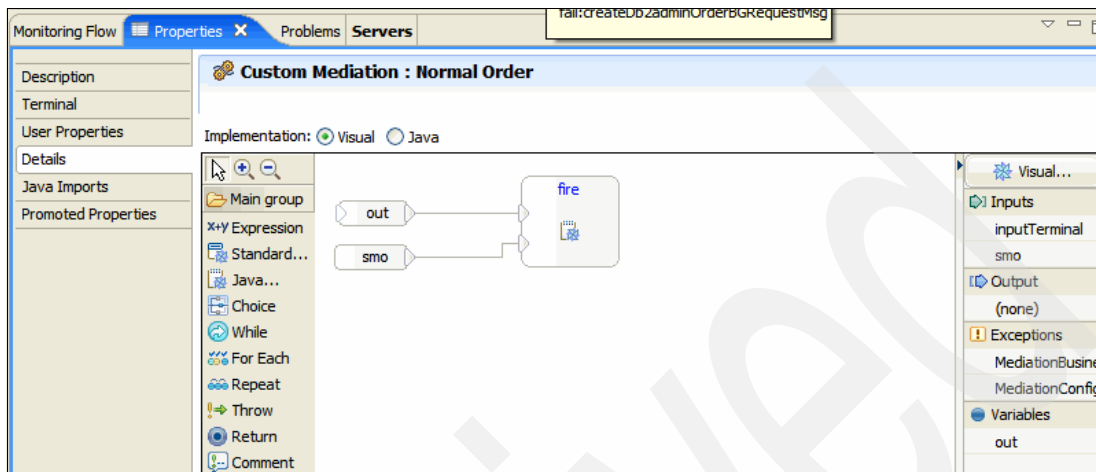

Figure 6-86 Visual Snippet Editor
2. Select the **Normal Order** custom mediation primitive. Then click the **Properties** tab and the **Details** subtab (Figure 6-86). For Implementation, select **Visual**. When prompted to continue, click **Yes**.